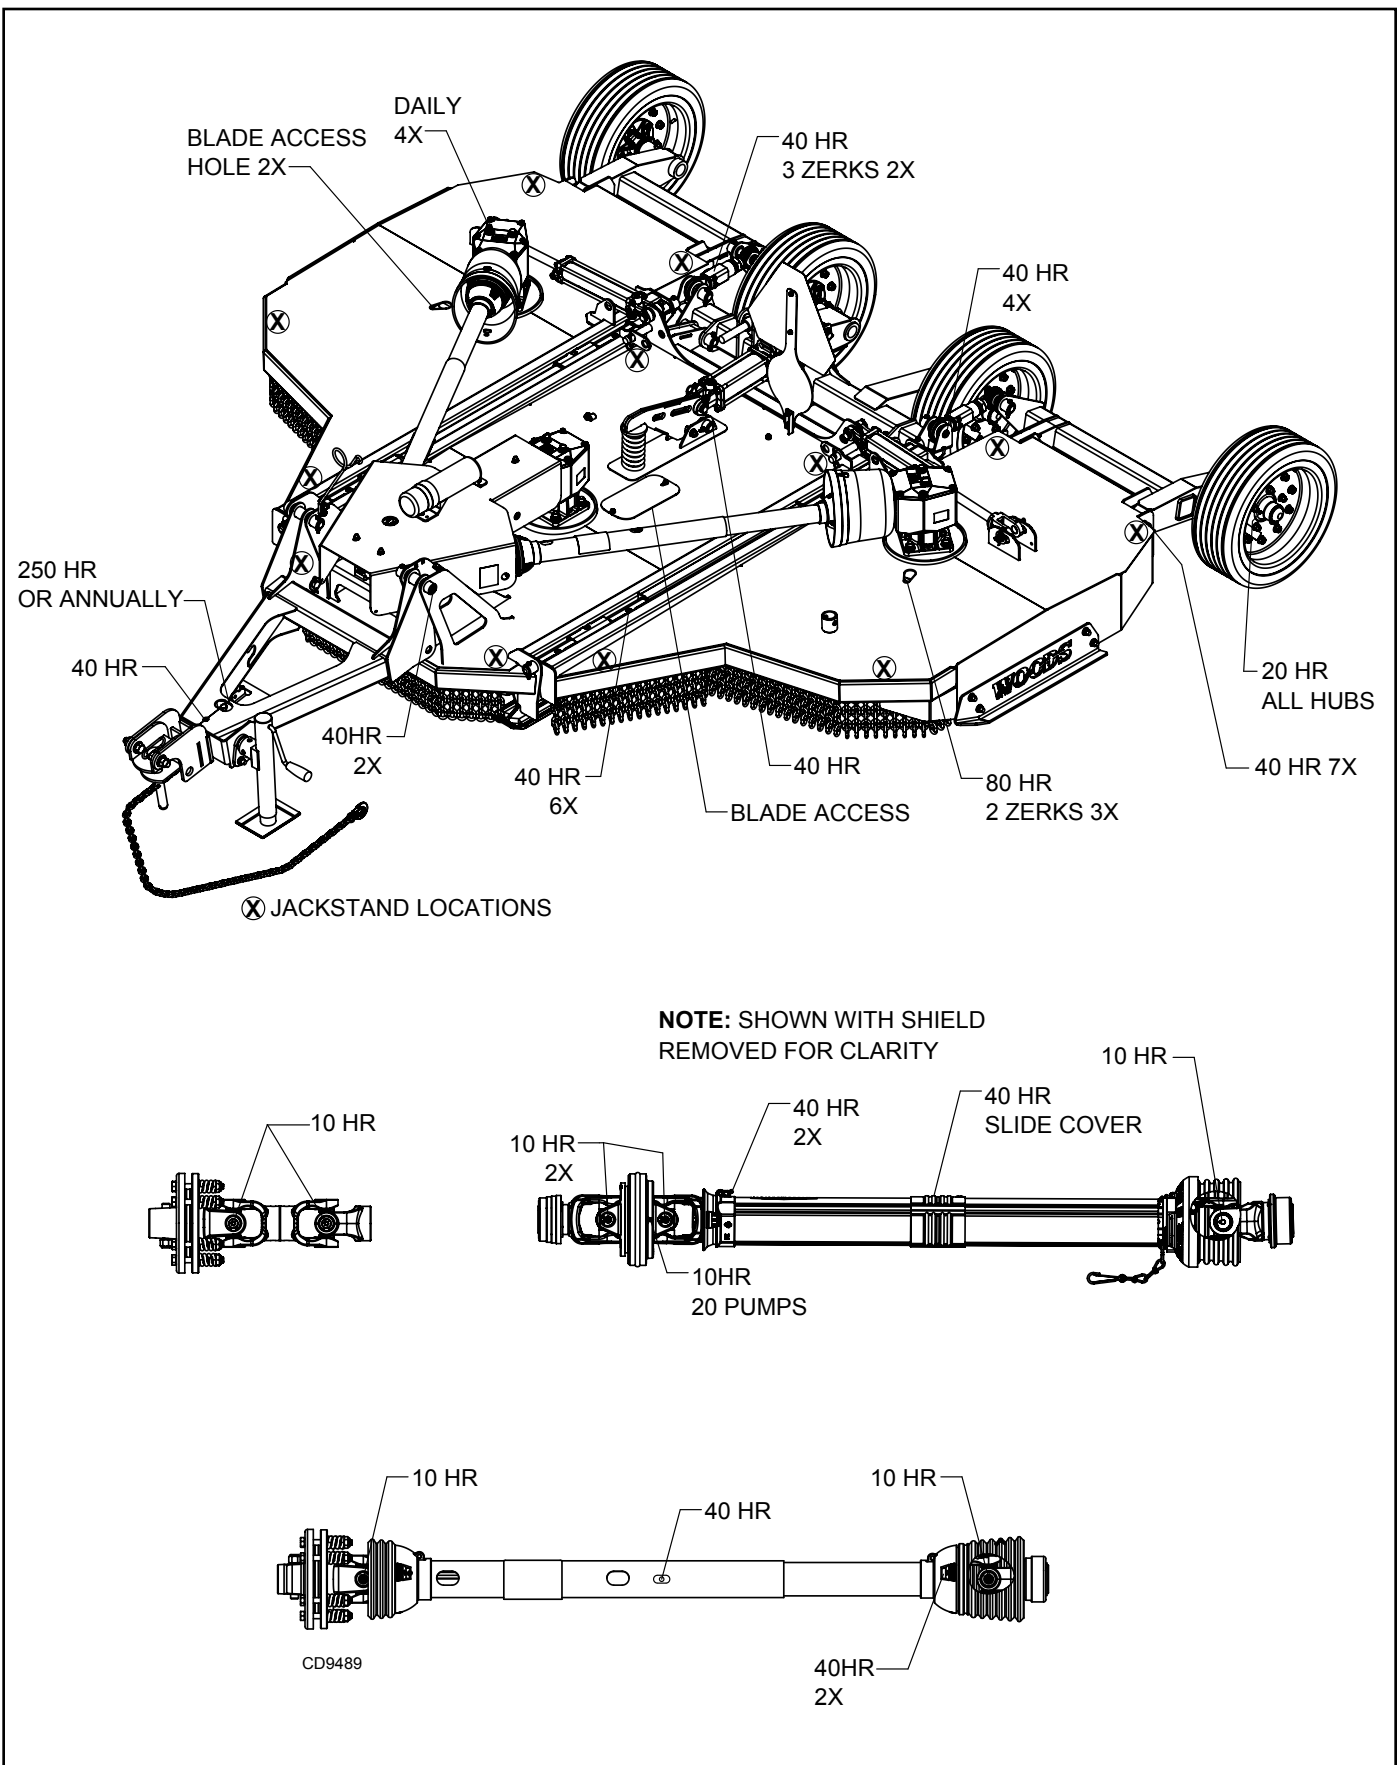

Figure 6. Jackstand Placement and Lubrication Points
1. Jackstands with a load rating of 1000 lbs. or more are the only approved blocking device for this cutter. Install jackstands (shown by Xs in Figure 6) under the cutter before working underneath unit.
- If the cutter moves during storage and pressurizes the hoses, that pressure can be relieved by jacking at the locations shown by X's in Figure 6.
See Figure 6 for lubrication points and frequency or lubrication based on normal operating conditions. Severe or unusual conditions may require more frequent lubrication.
2. Raise cutter and place 4 jack stands under center frame at locations marked "X" in Figure 6, and block securely.
4. Align hole in crossbar (4) with blade access hole in the cutter frame. Remove the bolt (1), using 3/4" wrench, blade pin lock clip (2) and keyhole plate (3). Carefully drive blade pin (6) out of crossbar and remove blade (5).